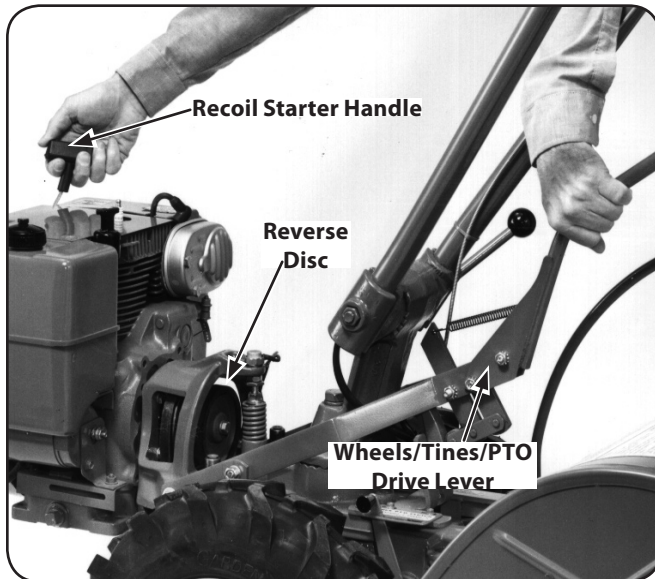

Figure 6-21
3. Use your left hand to hold the Wheels/Tines/PTO Drive Lever up in REVERSE, while briefly pulling out engine recoil starter. The reverse disc should turn the lower pulley. See Fig. 6-21. If not, or it requires a lot of pressure to hold the lever up in REVERSE, then the reverse adjustment bolt must be adjusted downward. When correctly adjusted, the Wheels/Tines/PTO Drive Lever should pop out of reverse when the lever is released, but not require exceptional effort to hold it up in reverse position.